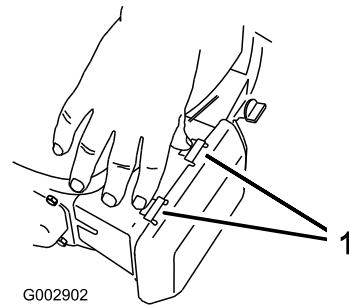

Figure 31
- Press down on the latch tabs on top of the air cleaner cover (Figure 31).